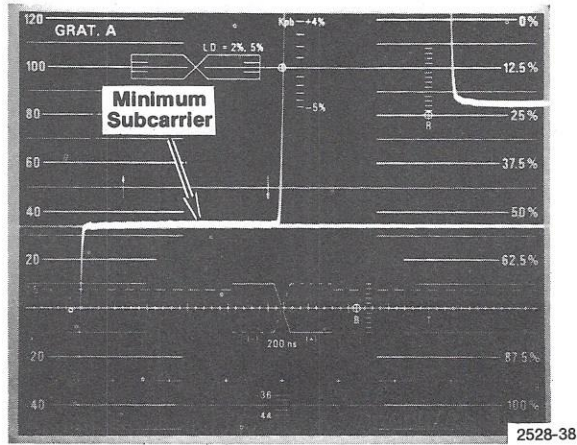

Fig. 4-5. Checking for minimum subcarrier on backporch of TSG6 Module Output signal. BURST pushbutton set to Off.
e. CHECK—for minimum residual subcarrier. See Fig. 4-5.